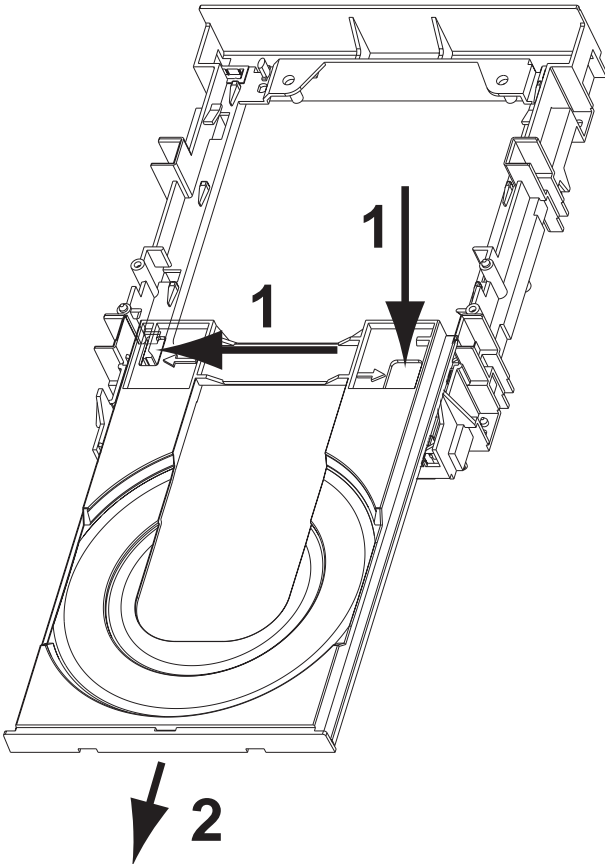

Figure 4-2 Remove Tray
- Disengage the two holders that fix the tray [1], see figure 4-2, and pull out the tray [2]